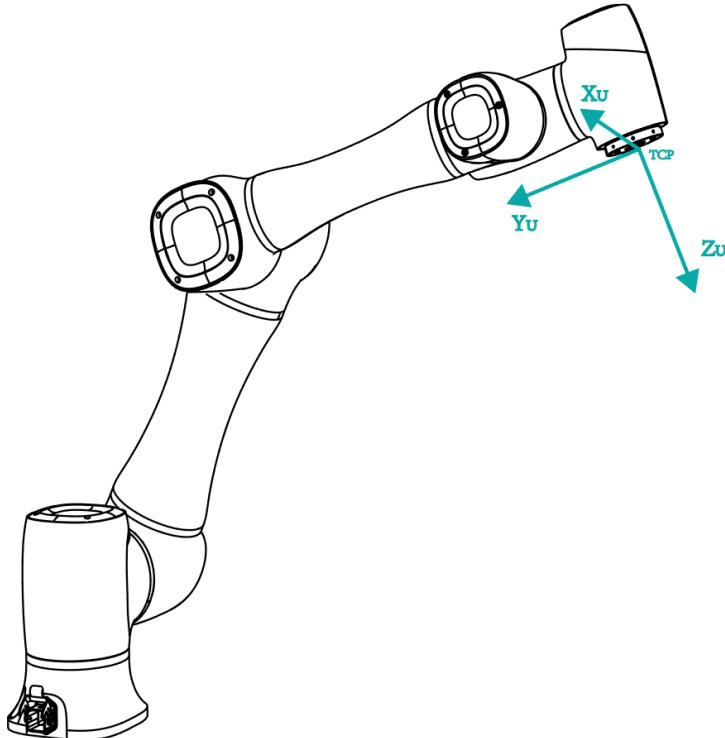

Figure 3.1 Point
- Point: move TCP to any point **A** to create origin, and create user coordinate system according to the default tool coordinate system As shown in Figure 3.1.